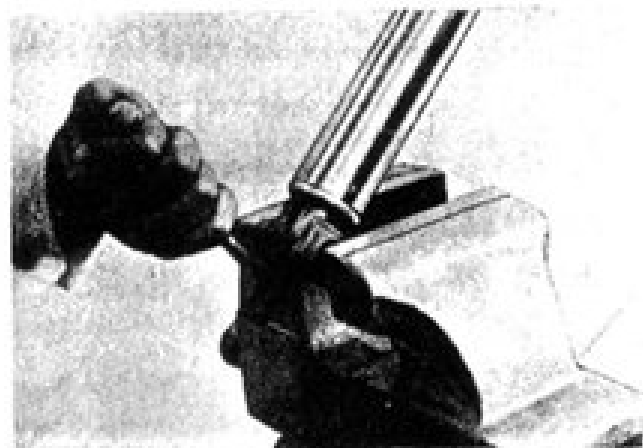

Fig. 42. Unscrewing the hydraulic shock absorber fastening bolt.
7. Clamp the leg in a vice by the sliding tube lower tip 21. Unscrew hydraulic shock absorber bolt 24 (Fig. 42), and get the shock absorber out.